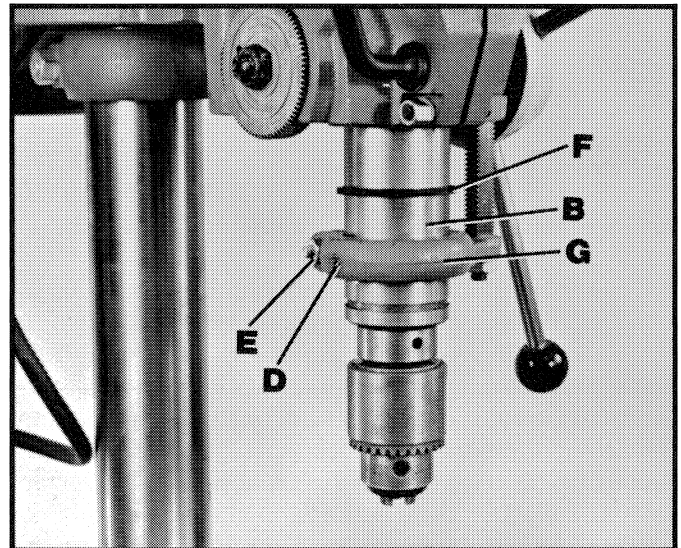

Fig. 6
3. Slide rubber ring (F) Fig. 6, up on the quill (B) as shown and raise stop collar (G) approximately $7/8$ ". Tighten set screw (D) and hex nut (E) just enough to hold stop collar (G) in position.